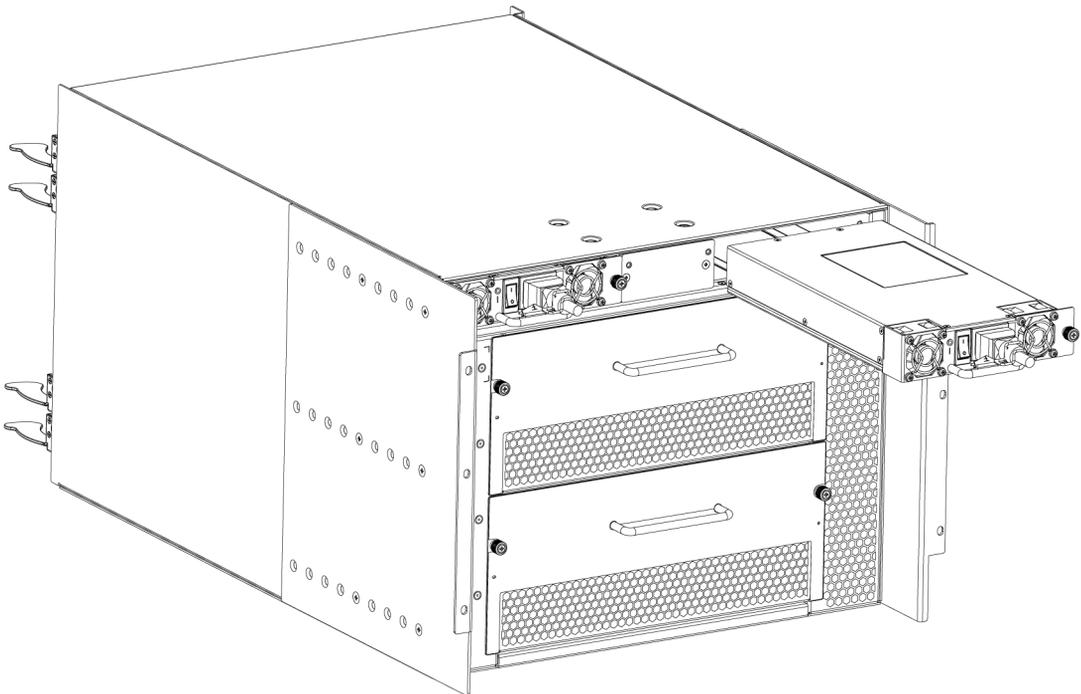

Figure 24 RRP: Power supply
4. Loosen the thumb screw as shown in Figure 24.